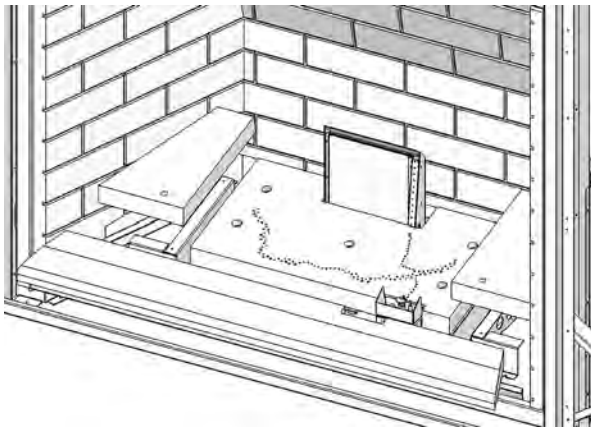
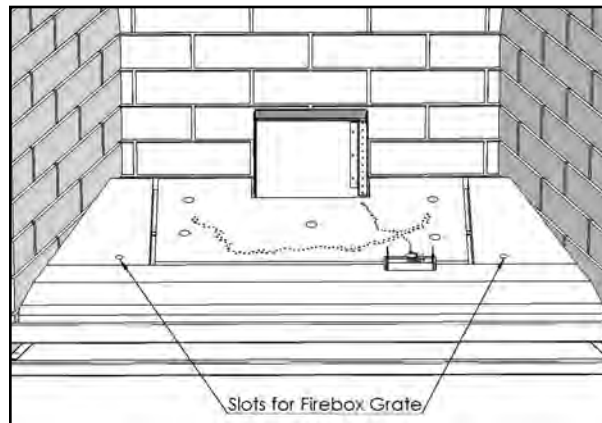

Figure 57: Burner Accents Pieces in Place.
Figure 58: Slot for Firebox Grate.
3. Install the burner accent pieces as shown in Figure 57. There are a left, a right and a front ceramic trim. On each side of the burner and on the inside of each burner side accent pieces there is a slot, which should be aligned in order to position the log grate correctly (see Figure 58).